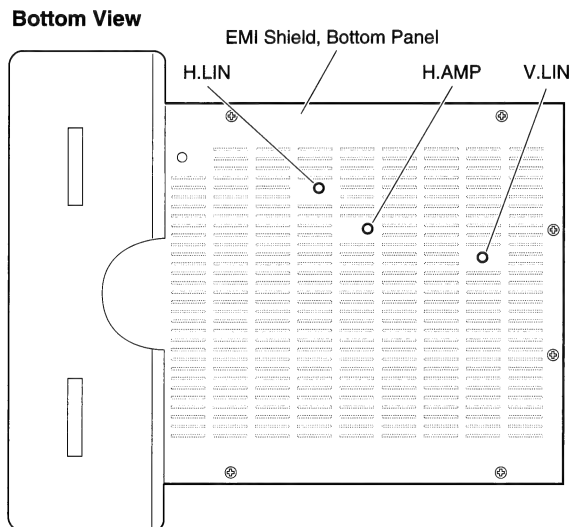

Figure 4 H.AMP, H.LIN, and V.LIN Controls
10. FIGURE 4. Turn the V.LIN control until the boxes at the top of the display are the same size as those at the bottom.
4. FIGURE 4. Turn the H.AMP control until the raster is 203 mm wide.
9. FIGURE 4. Using the hex alignment tool, turn the H.LIN control until the boxes at the left of the display are the same size as those at the right.